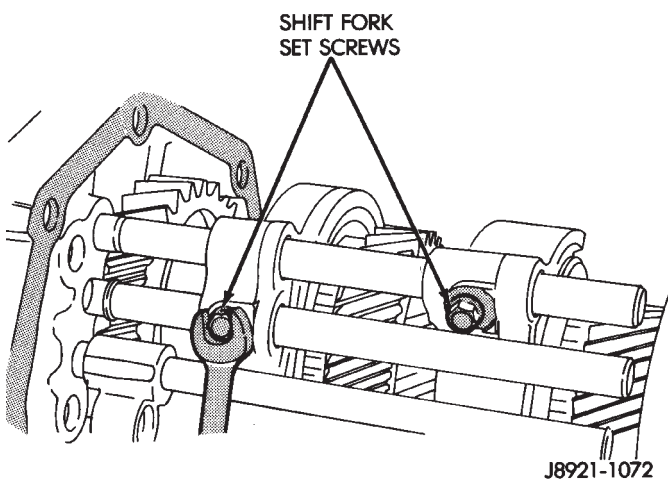

Fig. 95 Installing Shift Fork Set Screws
(12) Install and tighten shift fork setscrews to 20 N•m (14 ft. lbs.) torque (Fig. 95).